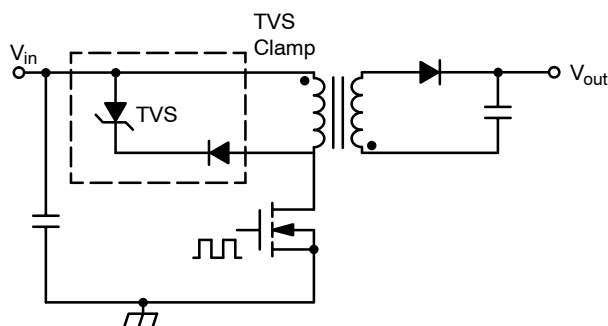

**Figure 47. Typical Drain Voltage Waveform of a Flyback Main Switch**
- In a single stage converter, one FET processes all the power – that is both a benefit and a limitation as the stress on that main MOSFET is relatively higher. Similarly, the magnetic component (flyback transformer/inductor) can not be optimized as well as in the 2-stage solution. As a result, potentially higher leakage inductance induces higher voltage spikes (like the one shown in Figure 47) on the MOSFET drain. This may require a MOSFET with a higher voltage